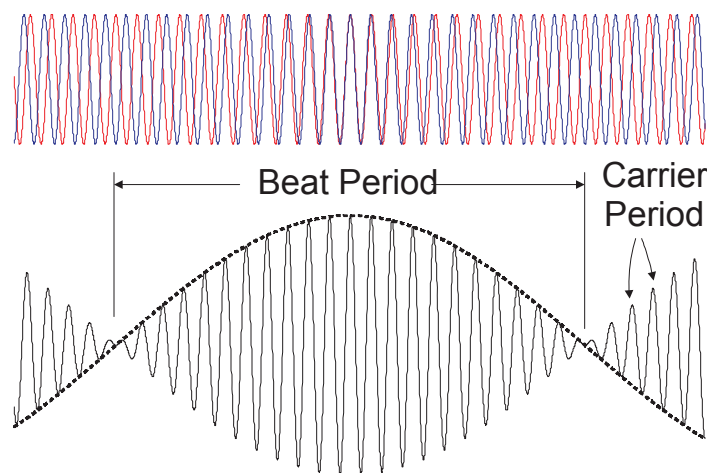

Figure 3.1: Two waves of different frequencies superposed to cause beats
The left side of the equation is displayed in the upper part of Fig. 3.1: the two waves have the same amplitude but different frequencies. If the two waves are added together, the result will appear as seen in the lower part of Fig. 3.1, which is described by the right side of Eq. (3.6). Notice that where the two waves are in phase (near the center) we have constructive interference (and a large amplitude) whereas where the waves are 180° out-of-phase we have destructive interference. The average of the two frequencies, $\frac{f_1+f_2}{2}$ applies to the rapid oscillations of the resulting wave, which is known as the *carrier wave*. The frequency $\frac{f_1-f_2}{2}$ applies to the slow variations of the carrier amplitude, shown as a dashed line in the lower figure.
3. It may be necessary to change the oscilloscope time base to obtain recognizable beats like in Fig. 3.1. When the beats are evident, click on **Run** button to freeze the display.